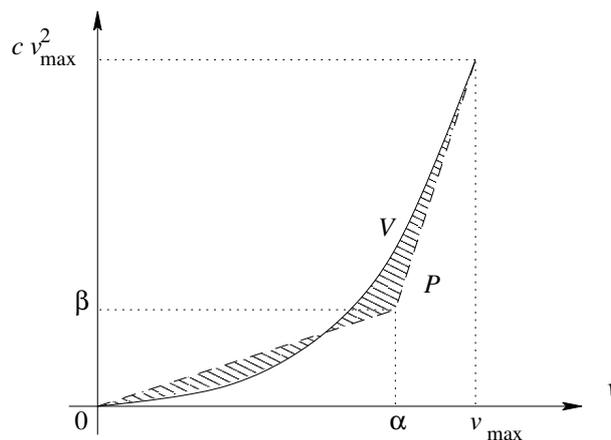

Figure 2: The quadratic function V and its PWA approximation P .
Step 2: Construct a piecewise affine (PWA) approximation P with 2 regions of the friction force curve $V : [0, v_{\max}] \rightarrow \mathbb{R} : v \mapsto v^2$ as follows. We want a perfect match for $v = 0$ and $v = v_{\max}$. This implies that we still have two degrees of freedom, i.e., the coordinates (α, β) of the middle edge point of the PWA curve (see Figure 2). Now determine α and β such that the *squared* area between V and P (i.e., the squared area corresponding the hashed region in Figure 2) is minimized, **or equivalently, such that**